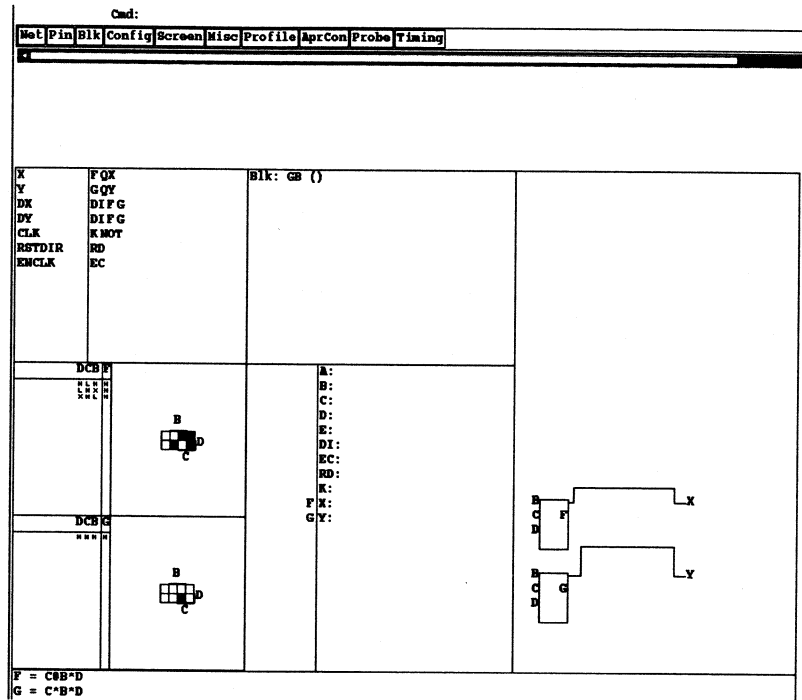

Figure 9-30 CLB Configured as mult1
3. Click on **F** for X and **G** for Y from the Configuration Options area. Make sure block GB resembles Figure 9-30.